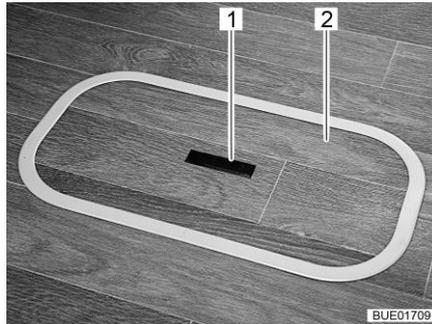
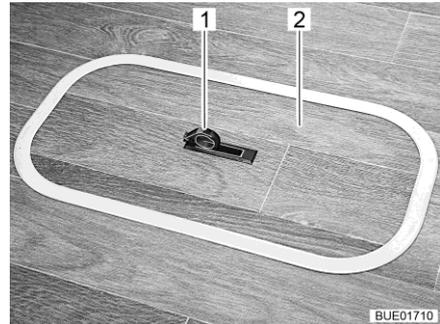

Fig. 54 Floor compartment cover
Fig. 55 Floor compartment cover
- Push one side of the grip plate (Fig. 54,1) downwards. The handle (Fig. 55,1) swivels upwards.
- Remove the cover (Fig. 54,2 or Fig. 55,2) upwards.